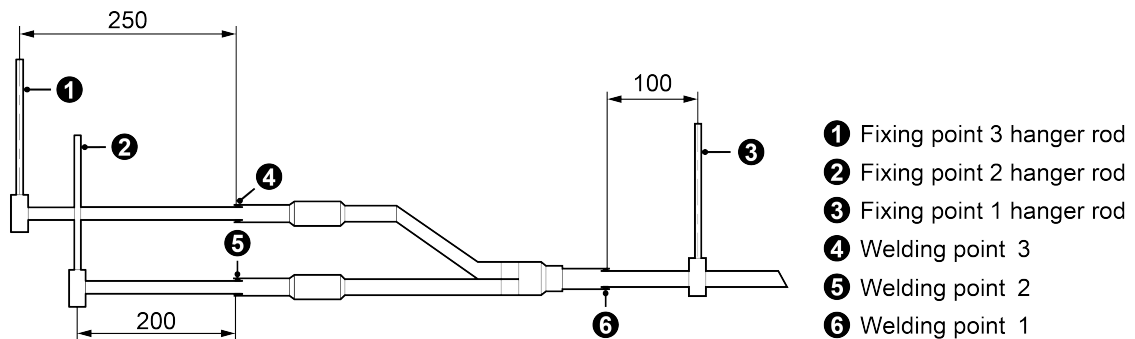

Fig.4.2.11
(3) There must be three fixing point for both horizontal and vertical installation of the Y-type manifold. See Fig.4.2.11.